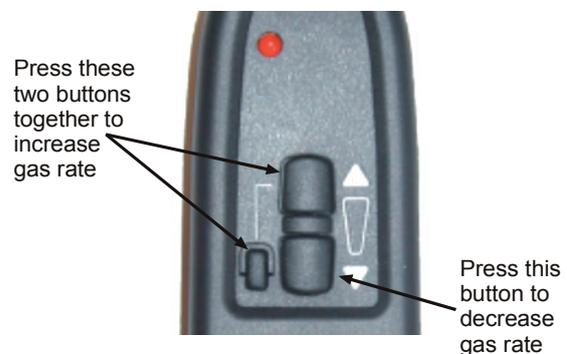

Figure 11 - Handset Operation
6. Using the HANDSET (as shown in **Figure 11**) press and hold **both the top and the small button together** until the main burner goes to full rate and clicking can be heard from the valve. During this process the main burner will ignite from the pilot.